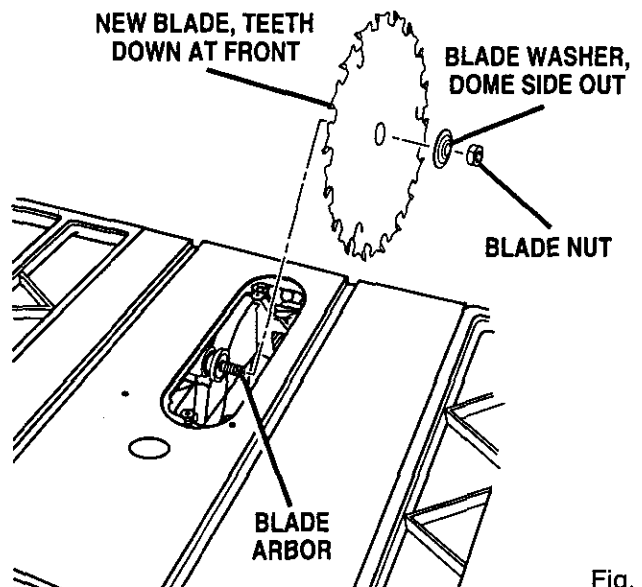
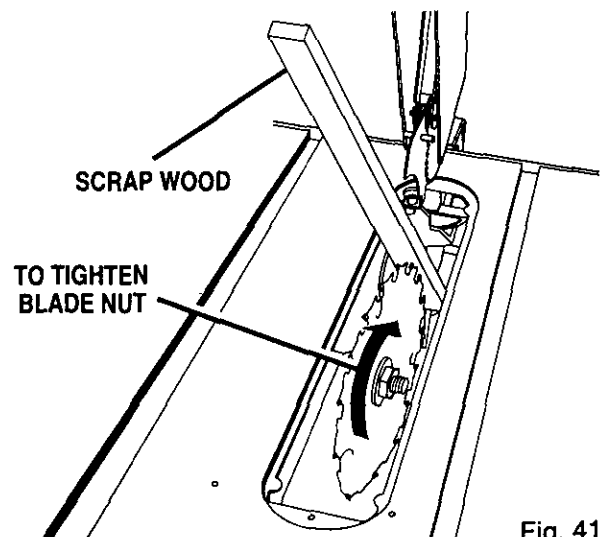

Fig. 40
Fig. 41
- To install a standard blade, place the new blade on the arbor shaft, with teeth pointing down toward the front of the saw. See Figure 40. Wedge a piece of scrap wood at the back of the blade. See Figure 41.